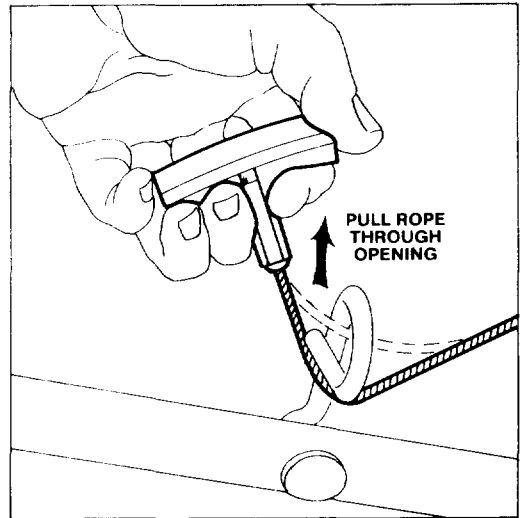
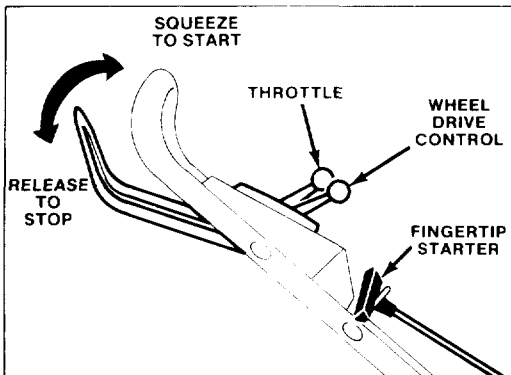

Figure 3
Figure 7
3. **STARTER ROPE** (Fig. 3) — Pull starter rope through opening in rope guide. By squeezing control bar (Fig. 7) against handle, blade brake will release and allow rope to be pulled easily up to rope guide.
1. **CONTROLS** (Fig. 7) — Wheel drive control throttle, blade control bar and fingertip starter are on upper handle.
2. **STARTING** (Fig. 7) — Push wire onto spark plug. Move wheel drive control to DIS-ENGAGE and throttle control to CHOKE. Hold control bar against handle. Pull fingertip starter and regulate throttle as required when engine starts.
3. **SELF-PROPELLING** (Fig. 7) — Move wheel drive control to ENGAGE. Front wheels will now drive mower. For maneuvering and making turns, push down on handle to raise front wheels slightly off grass. Move control to DISENGAGE detent to stop front wheel drive.
4. **STOPPING** (Fig. 7) — Release control bar to stop engine and blade. Pull wire off spark plug if mower is unattended or not used.